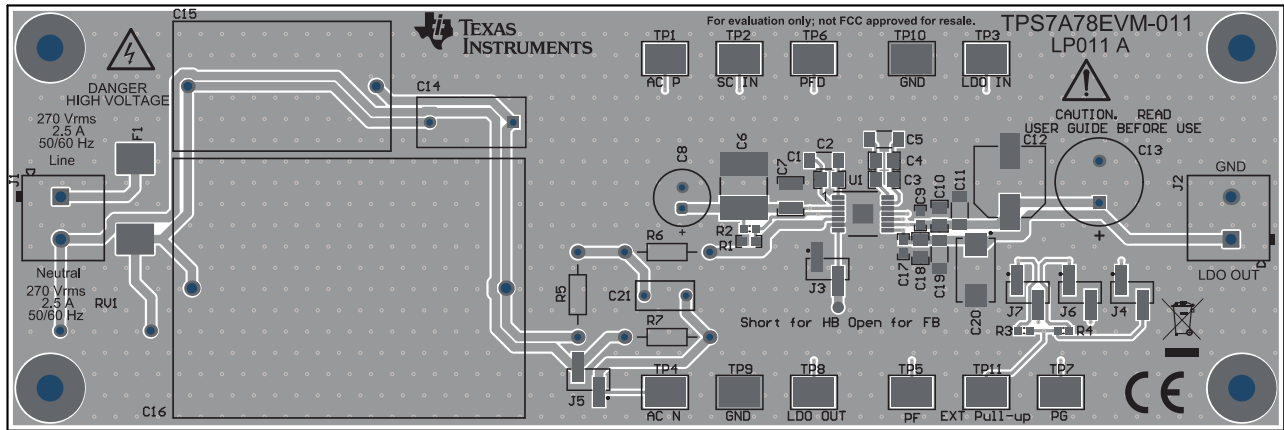

Figure 9. Assembly Layer
Figure 9 to Figure 11 illustrate the PCB layout for this EVM.
**NOTE:** The silk screens for resistors R1 and R2 are flipped in Figure 9.